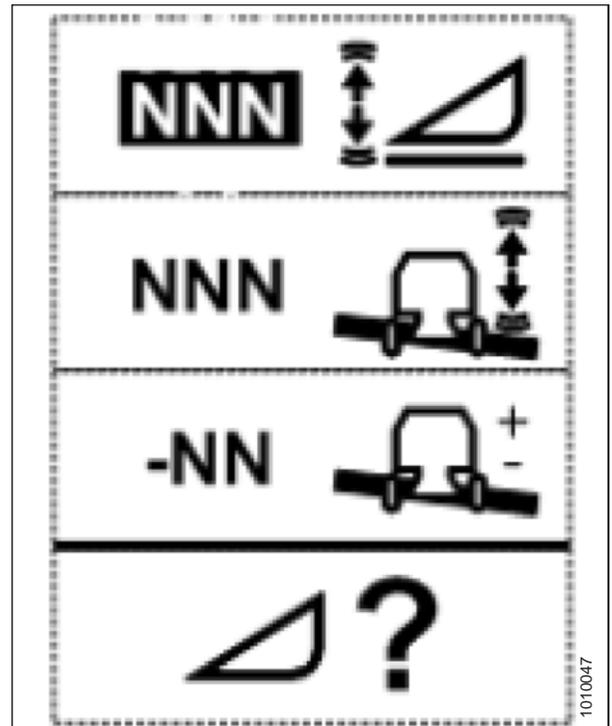

Figure 3.187: Height Sensitivity Change Page
1. Use the HEADER SETTINGS key (M) to display the HEADER SENSITIVITY CHANGE page as shown in Figure 3.187, page 141.
2. Use the UP or DOWN keys (E) or (H) to adjust the highlighted item. The height sensitivity setting range is 0 (least sensitive) to 250 (most sensitive) in increments of 10.